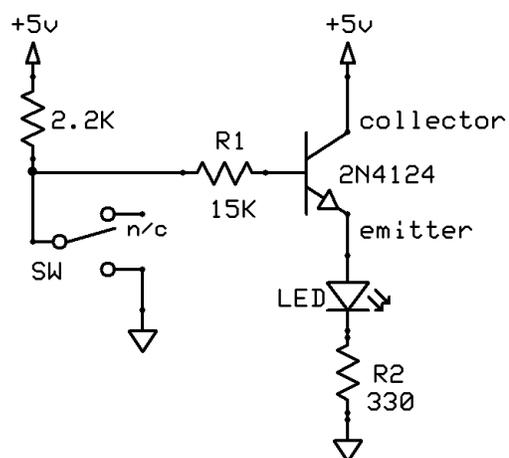
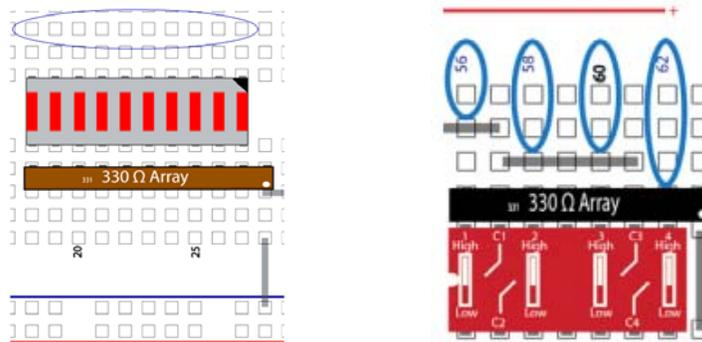

Figure 1.8. Resistor-LED circuit controlled by an NPN transistor.
Figure 1.9. LED bargraph at left; toggle switch access diagram at right.
How is an NPN Transistor like a mechanical switch? The transistor is turned on when a small current flows into its base. This small current will induce a much larger current to flow from the collector to the emitter which can be used for example, to turn on an LED like the one in Figure 1.8. Conversely, when the base current is cut off, no current flows from collector to emitter and the LED is turned off.
Figure 1.8 shows how to connect the transistor to our simple resistor-LED circuit to control turning the LED on and off.
1.6* Build the circuit of Figure 1.8. Record observations in your journal as you open and close the switch.
Here you will use an LED from the LED "bargraph". Each of the ten LEDs is already connected to ground through a 330 ohm resistor, as shown in Figure 1.8, so you won't need a separate LED and R2 resistor. In Figure 1.9 below left, the resistors are available in the 330 Ω Array. (You can refer to the Intro section of the lab manual, pg. 4, to see how the LEDs and resistors are connected.)
Connect the transistor's emitter directly to a bargraph LED through one of the holes circled above the bargraph. Then connect the base resistor (R1) to the output of one of the 12 toggle switches. A chip (red) with 4 of these is shown at the right in Fig. 1-9. Output holes for the switches lie above them in the diagram (those for the switch at row 62 are shown circled).
As shown in Figure 1.8, when the switch is down, the output connects to ground. When it is up, the switch is not connected (n/c) so current can flow into R1 and the base from the 5V bus through a 2.2K "pullup" resistor. The voltage drop across this resistor will be very low, so we can say that the switch output is "pulled up" to just under 5V. The real purpose of the resistor is to prevent a short-circuit from 5V directly to ground when the switch is down.